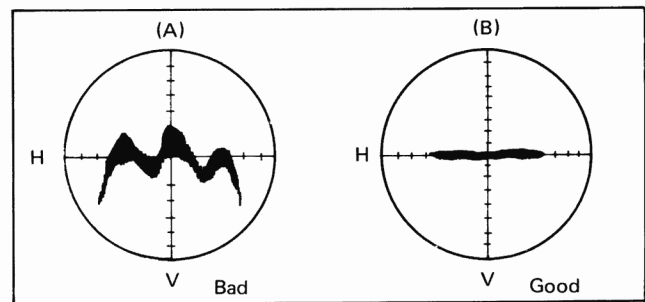

Fig. 6
After making these connections, select the antenna direction so that the waveform of oscilloscope appears as that (B) in Fig. 6.